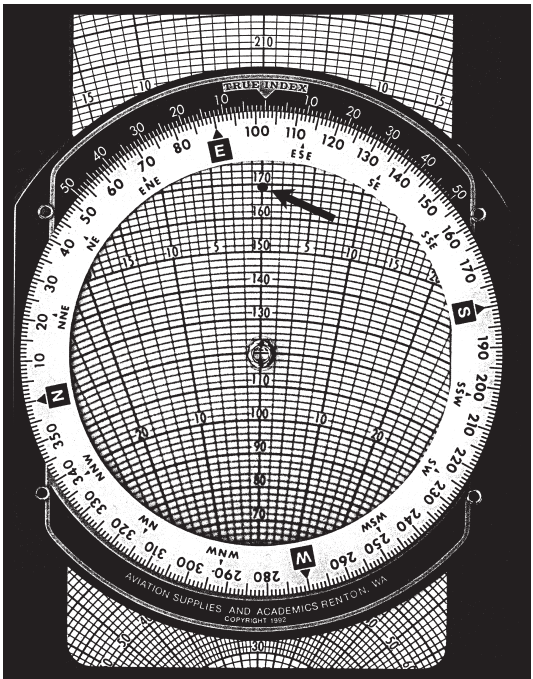

Figure 25
6. Read the true wind direction under the true index. You should have a wind direction of  $104^\circ$  and a wind speed of 50 knots (see Figure 25 on Page 35).